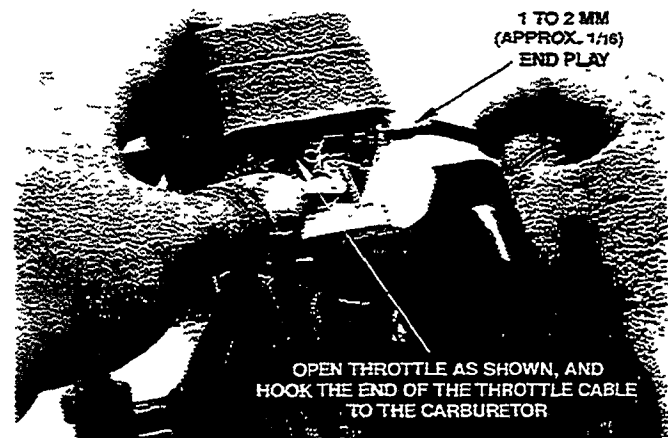

Figure 3
3. INSTALLING THROTTLE CABLE. (Figure 3).